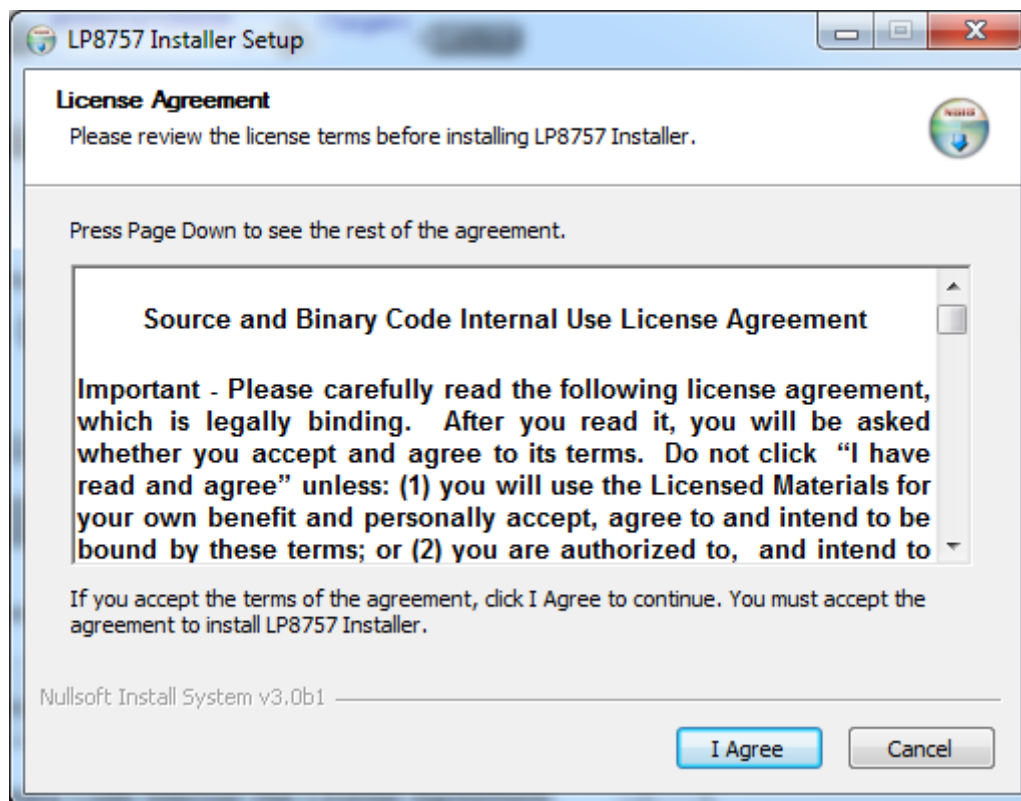

Figure 2. LP8757 Installer License Agreement
2. Installer prompts to accept the license agreement (see Figure 2).